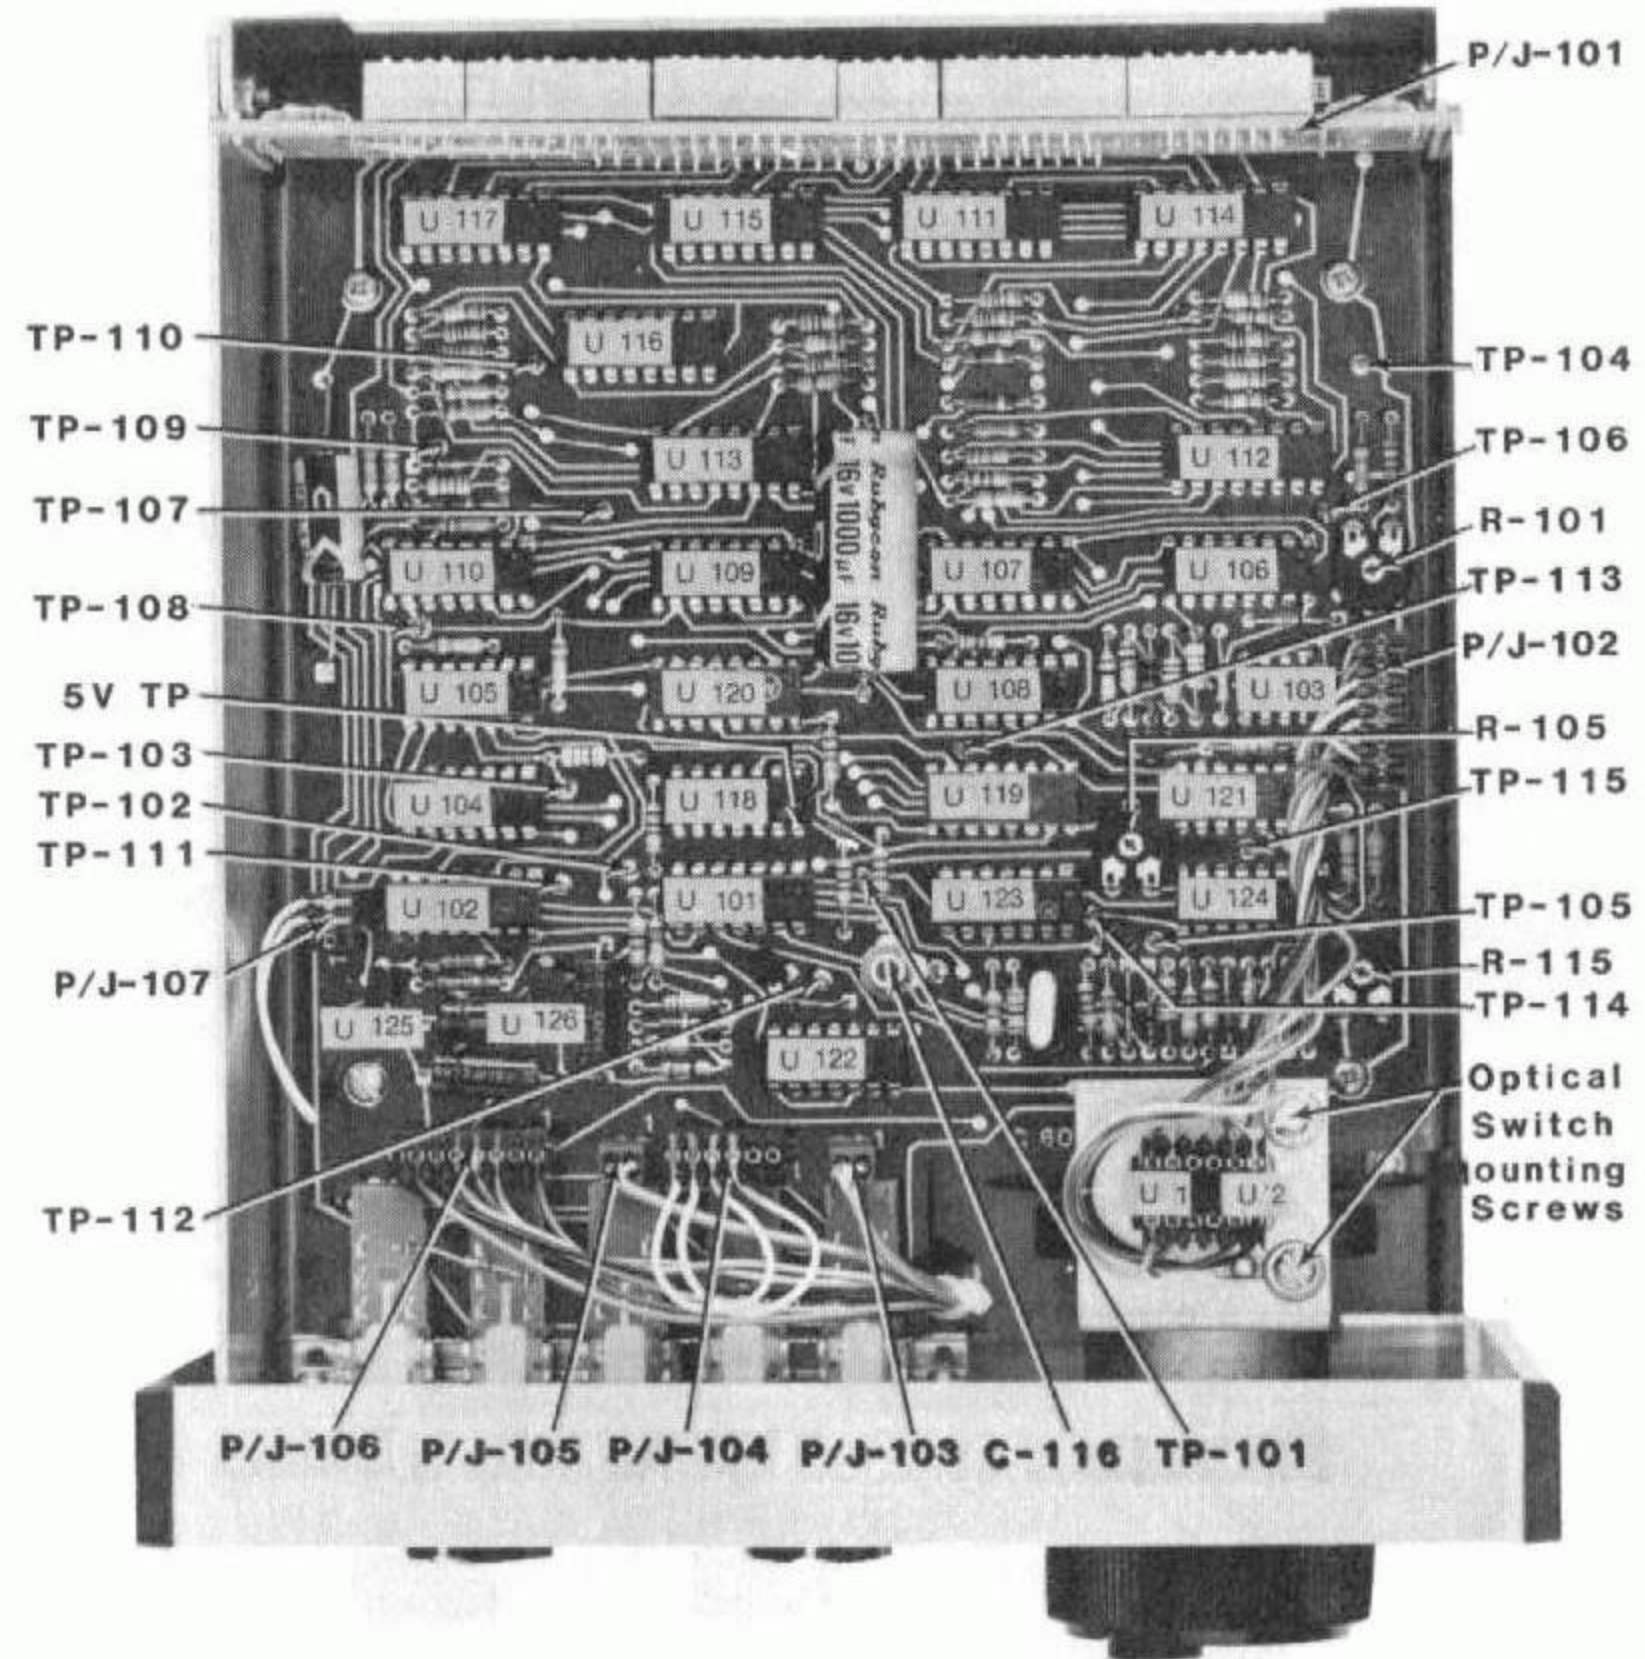

Figure 5-3 Digital Board
- B.) Loosen the two optical interrupter mounting screws shown in figure 5-3 until the mounting plate will just move if slight pressure is applied.